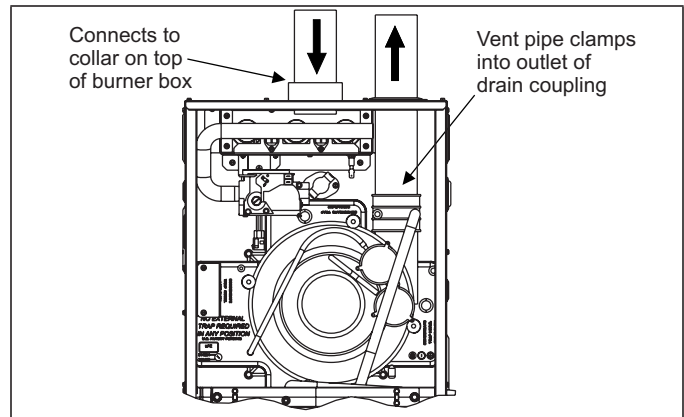

FIGURE 29: Direct Vent Air Intake Connection and Vent Connection
1. **OUTDOOR COMBUSTION AIR:** This is a direct vent configuration where the combustion air is supplied through a PVC or ABS pipe that is connected to the PVC coupling attached to the furnace and is terminated in the same atmospheric zone as the vent. This type of installation is approved on all models. Refer to Figure 29.
This installation requires combustion air to be brought in from outdoors. This requires a properly sized pipe (Shown in Figure 29) that will bring air in from the outdoors to the furnace combustion air intake collar on the burner box. The second pipe (Shown in Figure 29) is the furnace vent pipe.